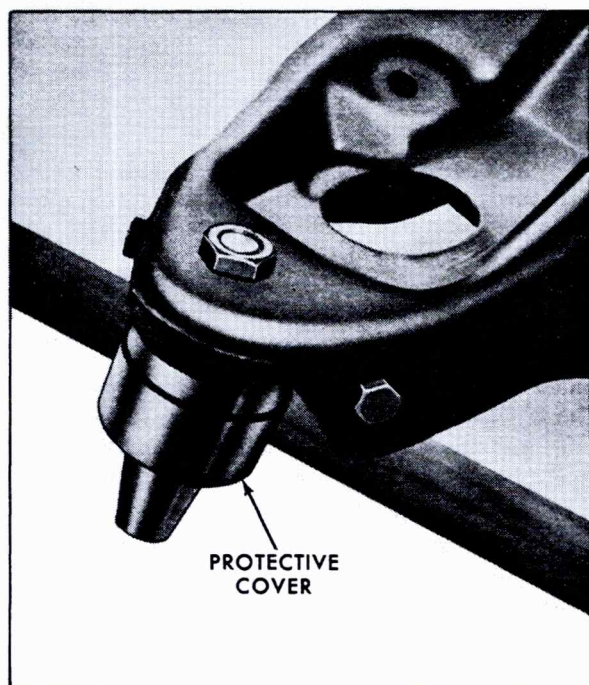

Fig. 3-53 Lower Spherical Joint Installed
1. Install service spherical joint into control arm and tighten bolts and nut as shown in Fig. 3-53.